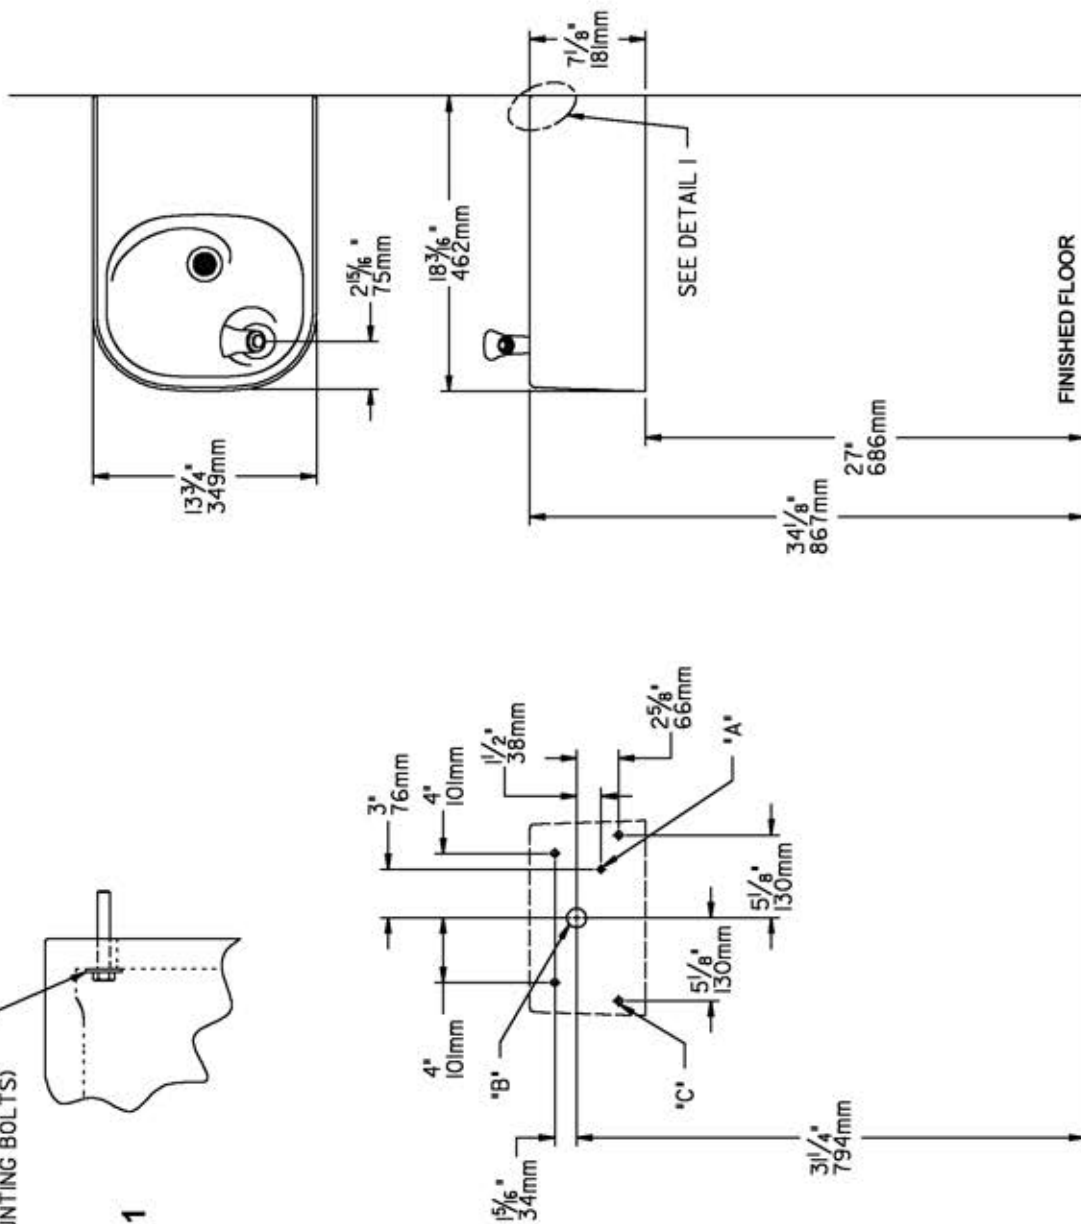

FIG. 3
1. **Wall should already be framed for the fountain** using the positioning dimensions shown in Fig. 3. Shown dimensions pertain to installation location (framing must support up to 150 lbs. weight).
2. **Install rough-in plumbing** as shown in Fig. 3. Run supply water inlet line and connect to a service stop (not provided). Turn on supply water and flush thoroughly. Close water supply.
3. **Remove bottom access panel** from fountain basin and save the screws. Install the fountain to the wall using (4) 5/16" bolts and washers (not provided). Bolts should be long enough to securely fasten the fountain to the wall. Tighten securely, but do not over tighten. Over tightening will crack the Composite Fountain.
4. **Remove elbow from end of p-trap** (item 1) and attach it to drain tube. Re-attach elbow to p-trap and cut waste tube to required length using plumbing hardware and trap as guide.